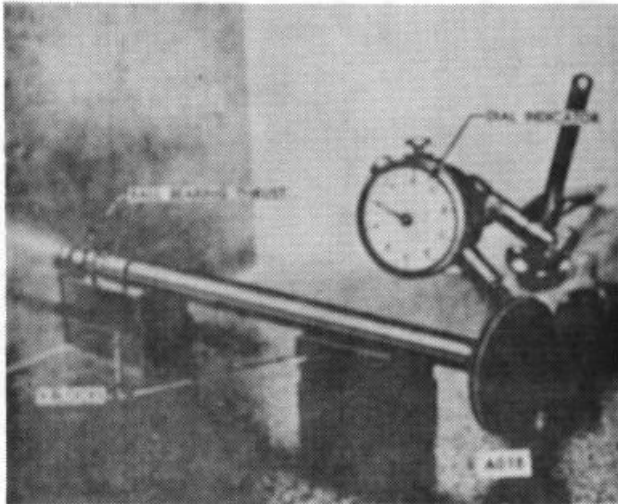

Figure 17.
3. Check all refaced or new valves in V-blocks with indicator to determine if the contact face is true with the stem within .002". (Fig. 17) If not, repeat the refacing operation.